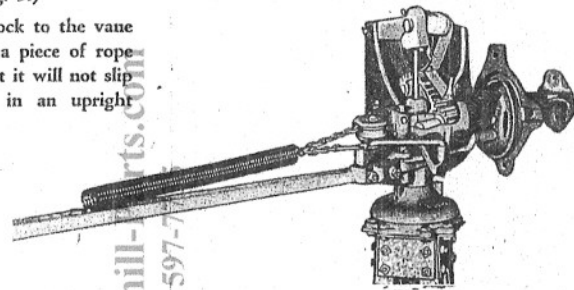

Fig. 5
- On the 6 foot and 8 foot mills, bolt the assembled vane to the head. Use $\frac{3}{8}$ inch x $1\frac{1}{4}$ inch bolts to bolt vane stem to lower vane hinge, No. WB 12, and $7/16$ inch x $1\frac{1}{2}$ inch bolts for No. WC 12. (Use $\frac{1}{2}$ inch x $1\frac{3}{4}$ inch bolts for WD 12.) Then hook one end of the spring in the widened link of the chain and the other end in the middle hole in the vane stem. (Fig. 5.)